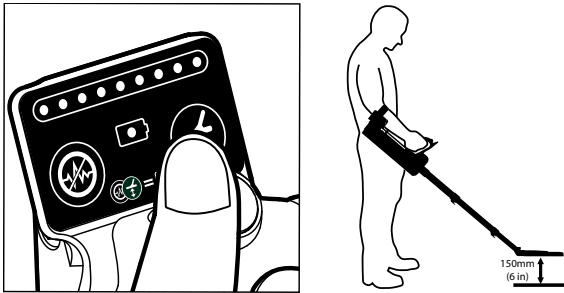

Figure 15: Ground Balance procedure
- a. Press and release the Ground Balance button. Slowly lower the coil directly to the ground then lift the coil up again 150 mm (6 ins). Refer to Figure 15.